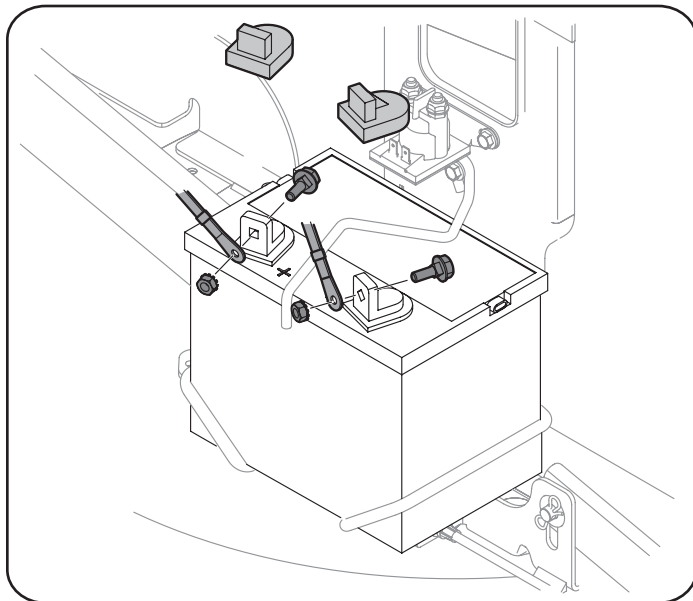

Figure 14
3. Remove the plastic cover, if present, from the negative battery terminal and attach the black cable to the negative battery terminal (-) with the remaining hex bolt and hex nut, using a 7/16 inch wrench and socket wrench. See Figure 14.